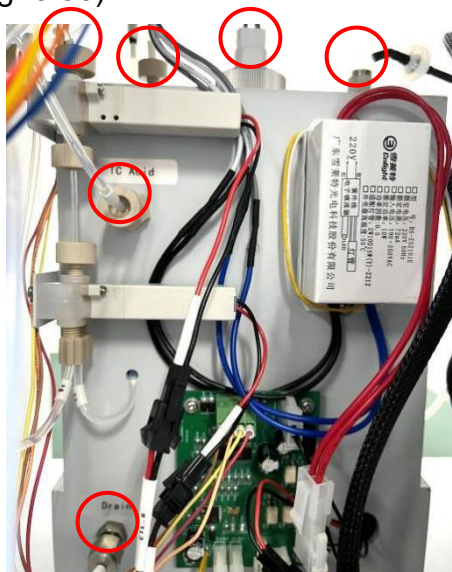
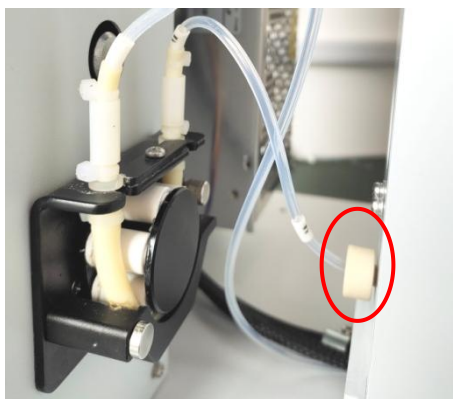

Fig.6.55
Fig.6.56
2) Unscrew the 6 connectors on the UV digestion tank and remove the UV lamp socket (Fig. 6.55) (Fig. 6.56).